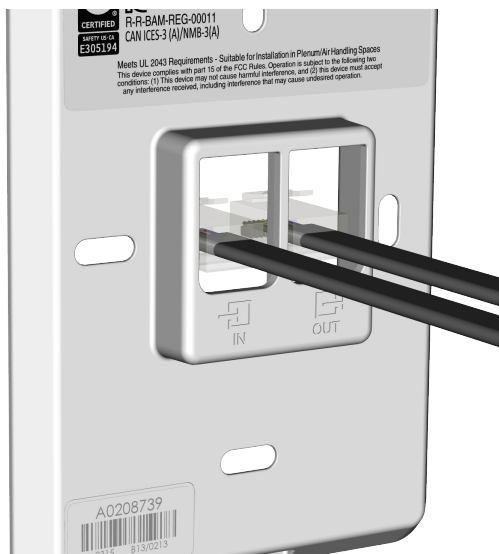

Figure 3. Insert Ethernet Cables
2. See Figure 3. Insert the control Ethernet cable through the port labeled "IN".